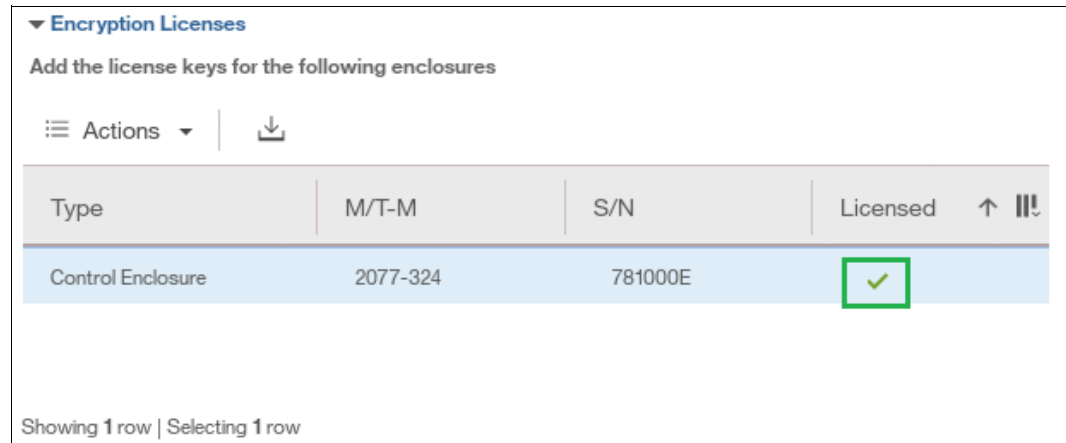

Figure 13-11 Successful encryption license activation on a running system
- After either activation process is complete, you can see a green check mark in the column labeled **Licensed** for the node, as shown in Figure 13-11.